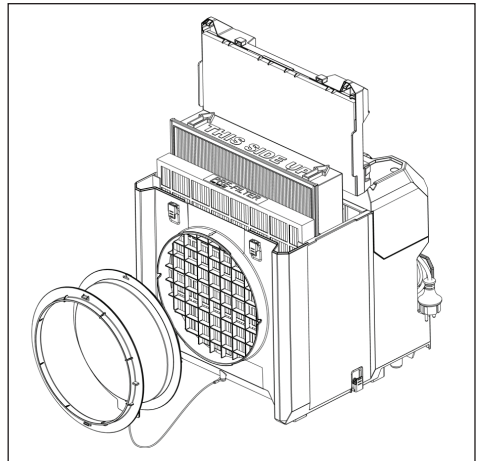

Fig. 5: Replacing the filters
- ▶ Insert a new pre-filter or main filter as shown in Fig. 5.